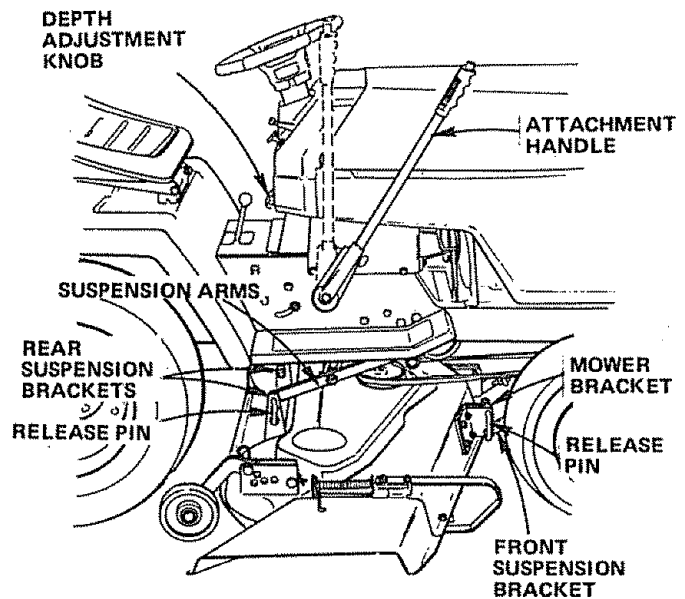

FIGURE 15
7. Slide Front Suspension Brackets into Mower Brackets. Retain with Release Pins (Fig. 15). Turn Depth Adjustment Knob counterclockwise (↺) until it stops.
8. Slide Suspension Arms into Rear Suspension Brackets. Retain with Release Pins (Fig. 15).
9. Turn Depth Adjustment Knob (Fig. 15) clockwise (↻) to remove slack from Mower Suspension. Raise Attachment Handle to full up position.